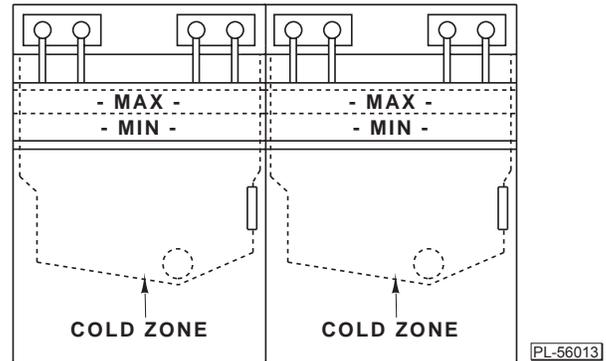

Fig. 10
3. Once shortening has melted, stir oil to eliminate solid shortening in the cold zone (Fig. 10). All solid shortening must have melted completely.